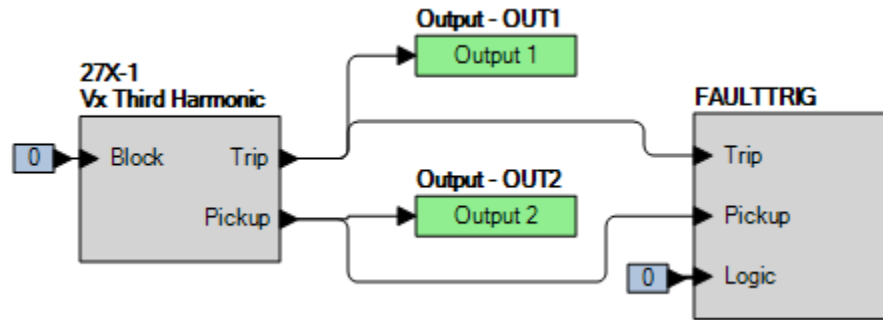

Figure 67-5. BESTlogicPlus Settings (Vx Third Harmonic Mode)
- Step 4: Prepare to monitor the 27X-1 function operation. Operation can be verified by monitoring OUT2 (see Figure 67-5).